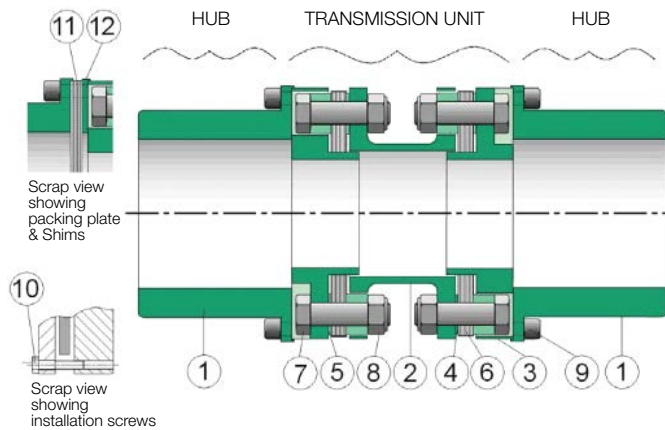

Figure 3: Coupling Construction
8.4 The Torsiflex-I coupling hubs must be removed from the transmissions unit – see figure 3. to allow installation. Remove the connecting nuts and bolts from the hub/adaptor flanges and using jacking screws force the flanges apart. Store the nuts and bolts along with the packing ring and shims (if supplied) for future stages of installation.